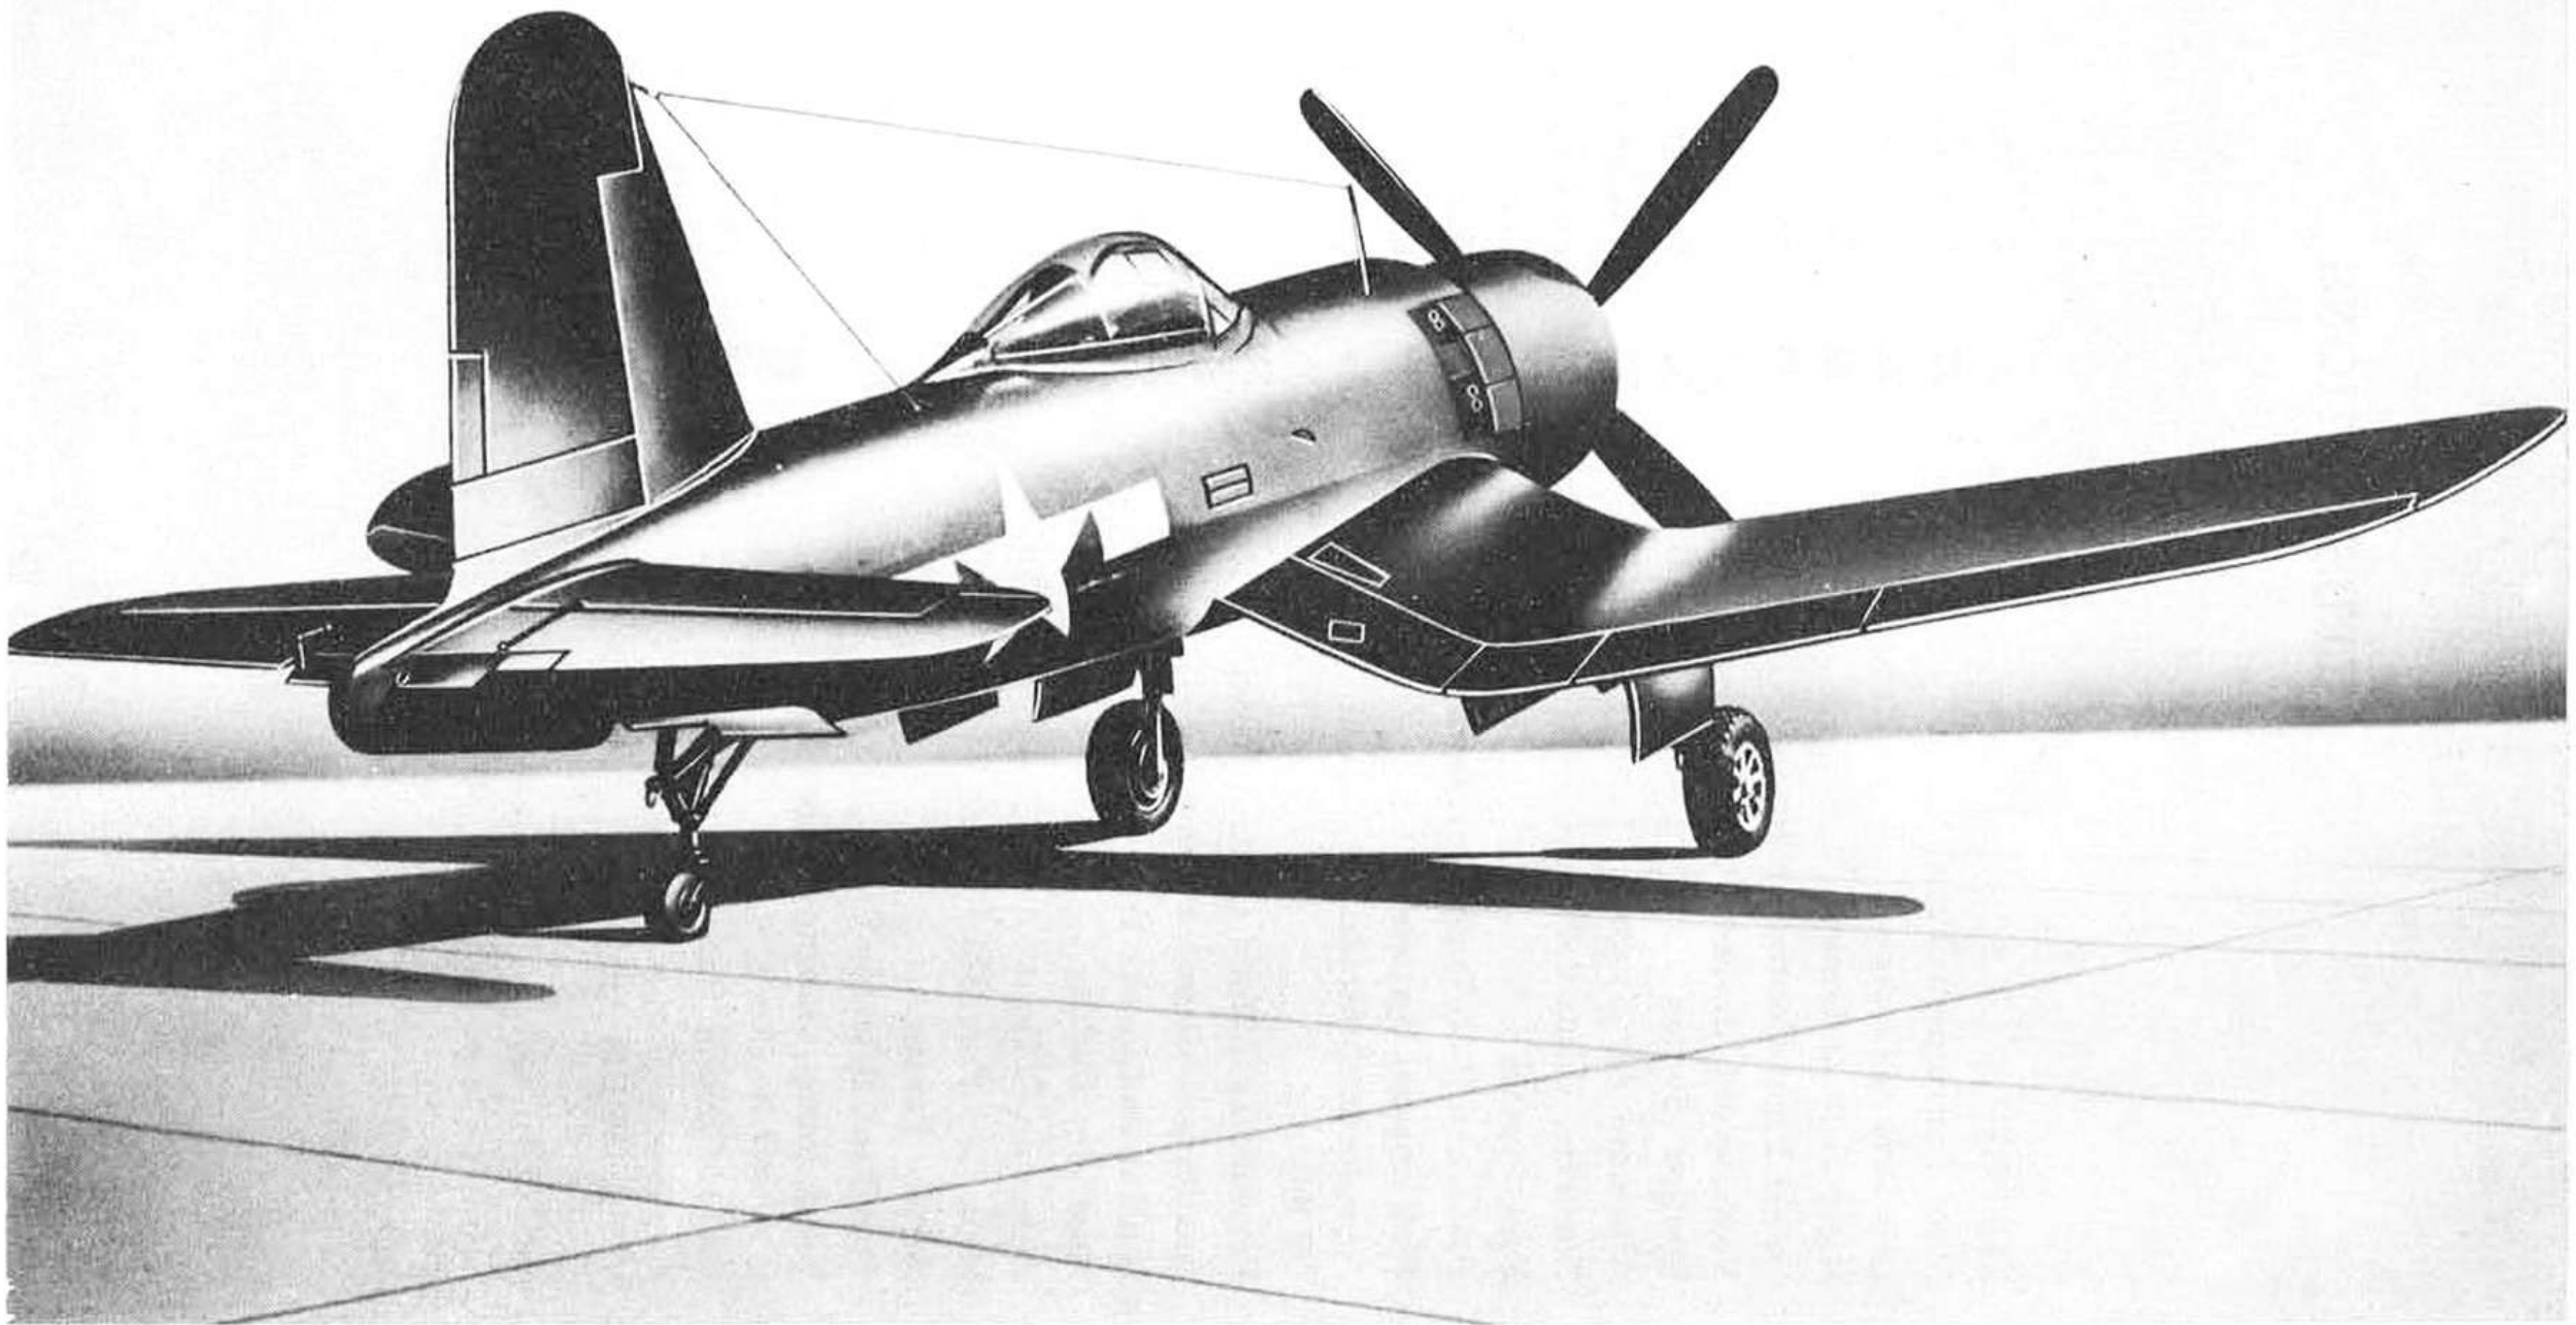

Figure 1 — The F2G
a. THE AIRPLANE. (See figure 1.) — The F2G airplane, manufactured by the Goodyear Aircraft Corporation of Akron, Ohio, is a single place, single engine, fighter plane. Structurally, it is a low-wing monoplane of the inverted gull wing type, with approximate weights and dimensions as follows: